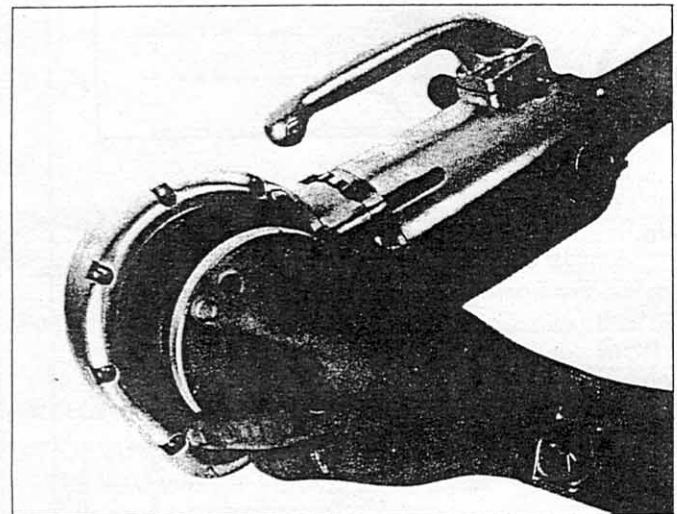

Figure 11 — Installing Die Head
4. Insert die head or adapter from side of housing with directional arrow. Push die head or adapter squarely into the drive gear until secure. (Fig. 11)